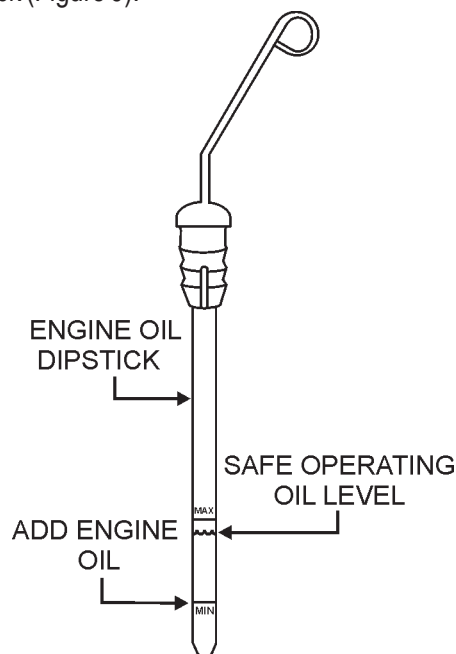

Figure 9. Engine Oil Dipstick
3. Insert and remove the dipstick, check the oil level shown on the dipstick (Figure 9).